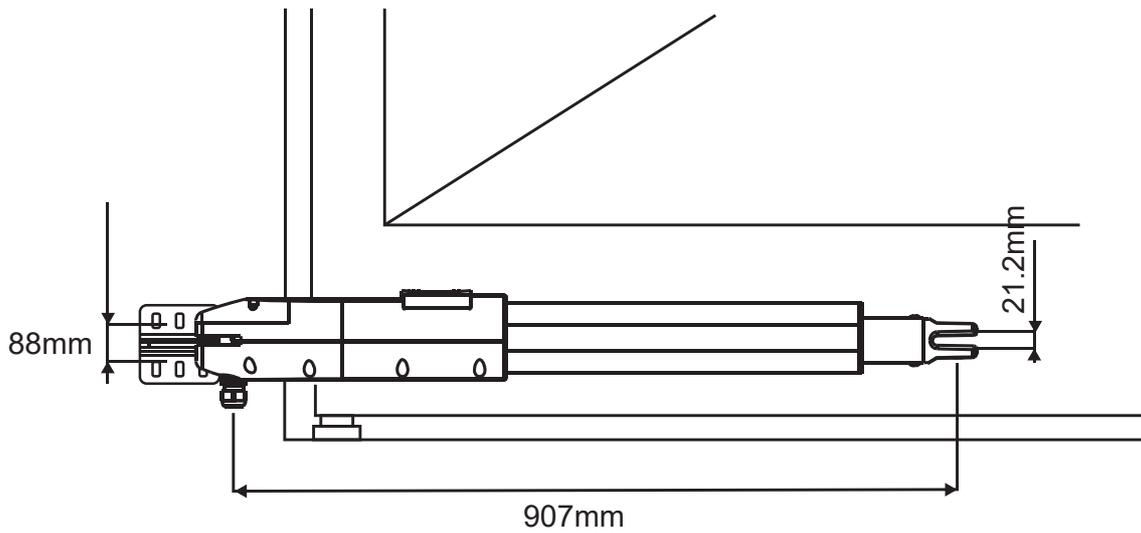

FIGURE 23
- 7 Refer to the distance of "B" in figure 17, place the rear plate in the correct position on the mounting surface. Inspect if the distance is proper as shown in Figure 23 i.e. the position the front plate of the motor to be installed.
- 10 Refer to Figure 23, the distance between front plate of the motor and rear plated is 836mm, the difference in height is 21.2mm.